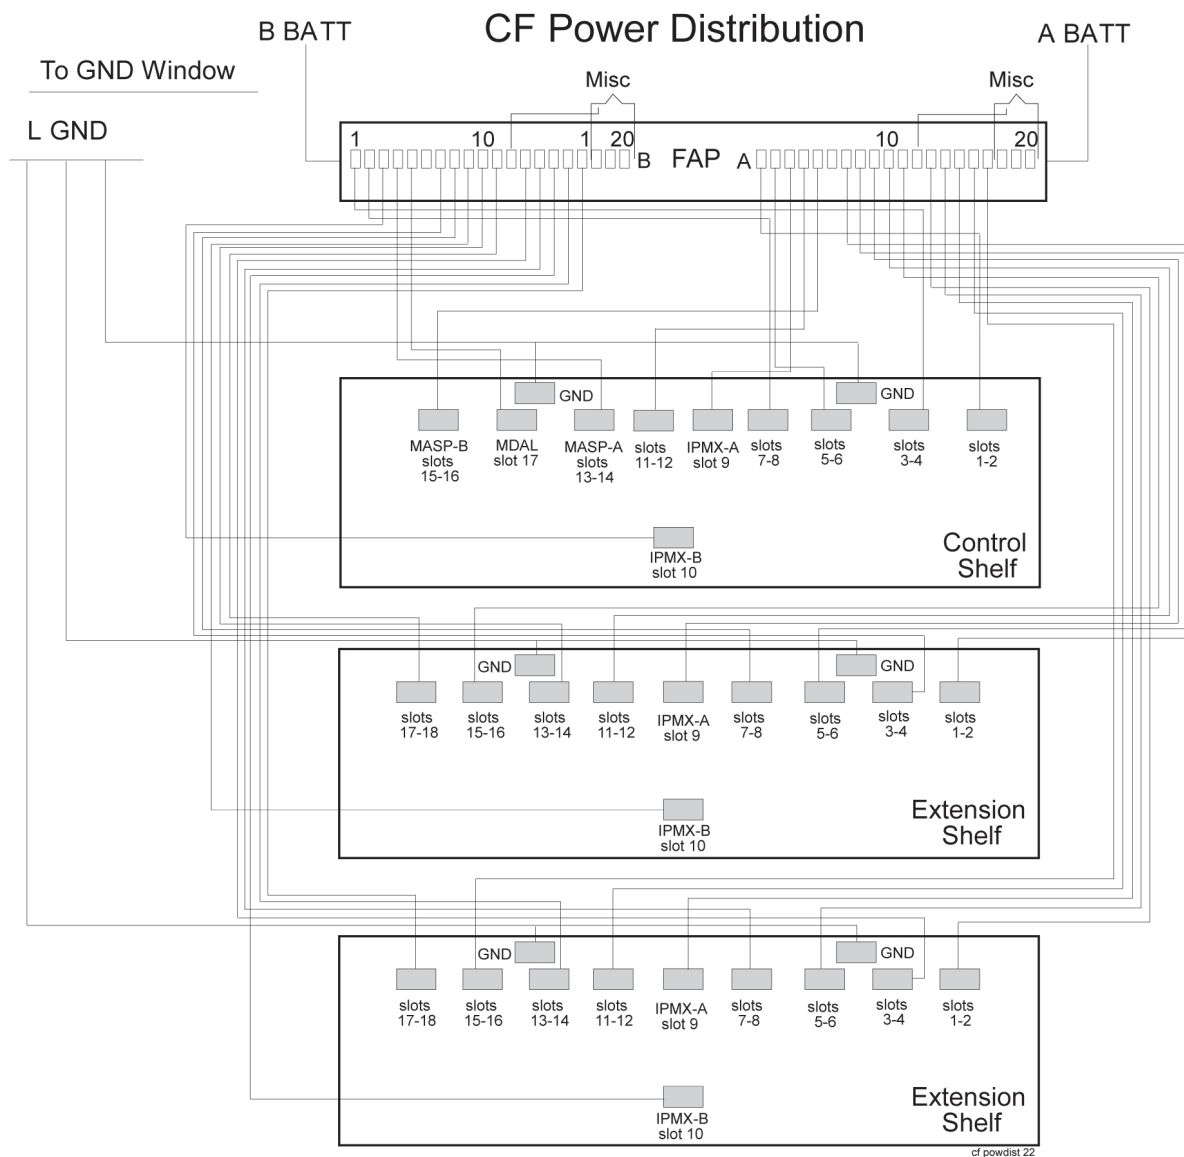

Figure 61: Control Frame FAP (P/N 870-0243-08 and P/N 870-1606-xx)
- Control frame, Figure 61: Control Frame FAP \(P/N 870-0243-08 and P/N 870-1606-xx\)